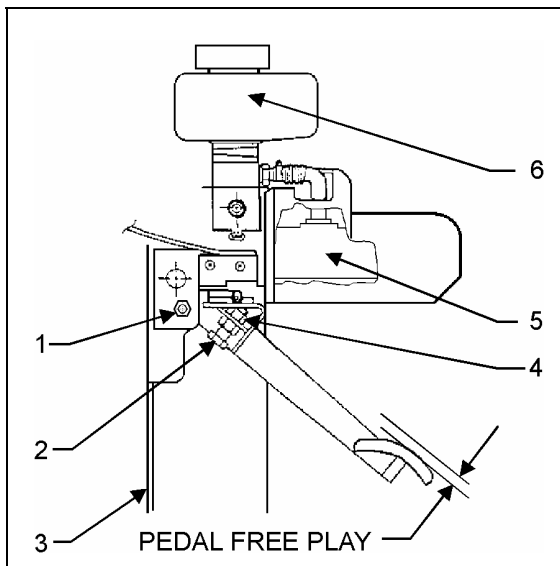

FIGURE 1: FREE PLAY ADJUSTMENT 02004
- FIGURE 1: FREE PLAY ADJUSTMENT02-3
1. Free play adjustment is made by loosening nut (1, Fig. 1) and moving bolt in slot. The pedal moves down allowing a 1/4" (6 mm) of **free play** before the master cylinder (5, Fig. 1) starts to move.
2. Keep this adjustment by tightening nut (1, Fig. 1).
4. Loosen the adjustment bolt (2, Fig. 1) until it touches the pedal wall support (3, Fig. 1).
5. Loosen the adjustment bolt (2, Fig. 1) for another 1-1/2 turn. Lock in position by tightening nut (4, Fig. 1).